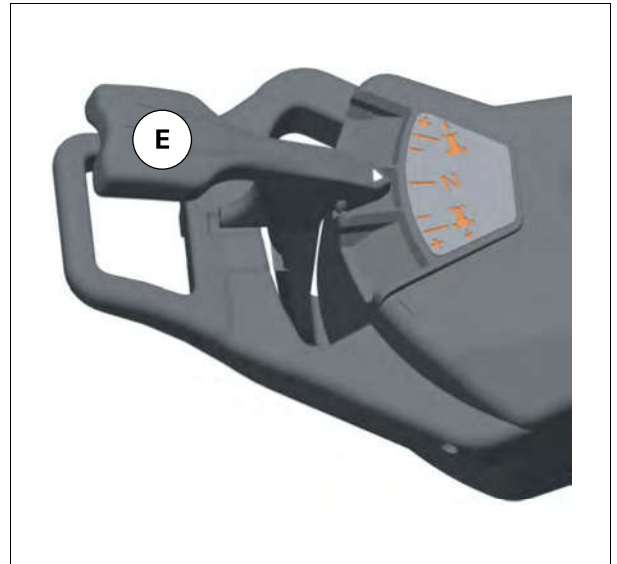

Fig. 6.
1. Check that the transmission is engaged and shuttle lever (E) fig. 6 is in neutral.
3. Move transmission lever (A) to select the desired Powershift ratio, and also press button (D) to shift to a higher or lower range.
3. Place shuttle lever (E) fig. 6 in forward or reverse travel.
5. Move shuttle lever (E) fig. 6 to select the range and the desired Powershift ratio.
7. Move shuttle lever (E) back fig. 6 to neutral.